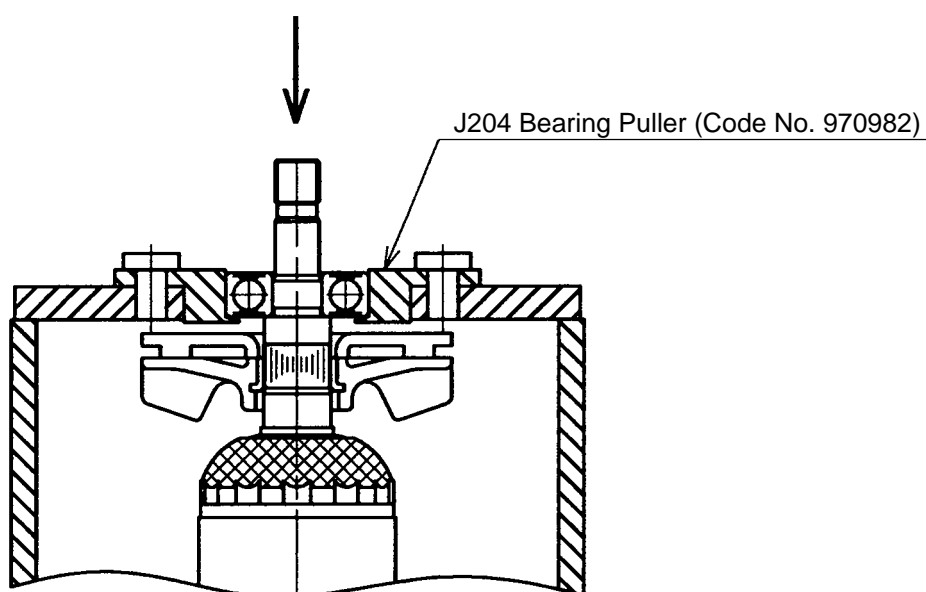

Fig. 5
(1) Disassembly of the armature (Fig. 5)
8. For the models indicated under Fig. 5, the Ball Bearing 629T12DDC3PS2-L **[9]** can be removed from the Armature **[12]** by utilizing a J-204 Bearing Puller (special repair tool, Code No. 970982) as illustrated.